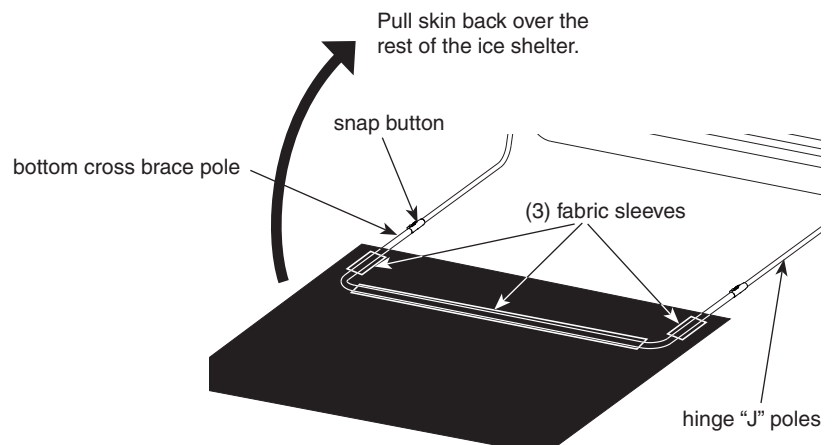

FIGURE 6
16. Unfold skin and locate the Eskimo Eskape 350 logo near the zippered door, which is the front of the shelter. With front of shelter skin laying face down on the ground in front of the shelter, locate the (3) fabric sleeves sewn to the bottom seam on front side of shelter. Slide bottom cross brace pole (68132 which measure approximately 71.71" x 30.89") through the (3) fabric sleeves. Insert (1) hinge "J" pole from each hinge into the bottom cross brace pole. Making sure the lever side of large, red QRS pole clip is inline with the snap button of hinge poles, push the snap buttons inward to allow cross brace pole to go over "J" poles. Snap into place for the "in-use position." **SEE FIGURE 6.**